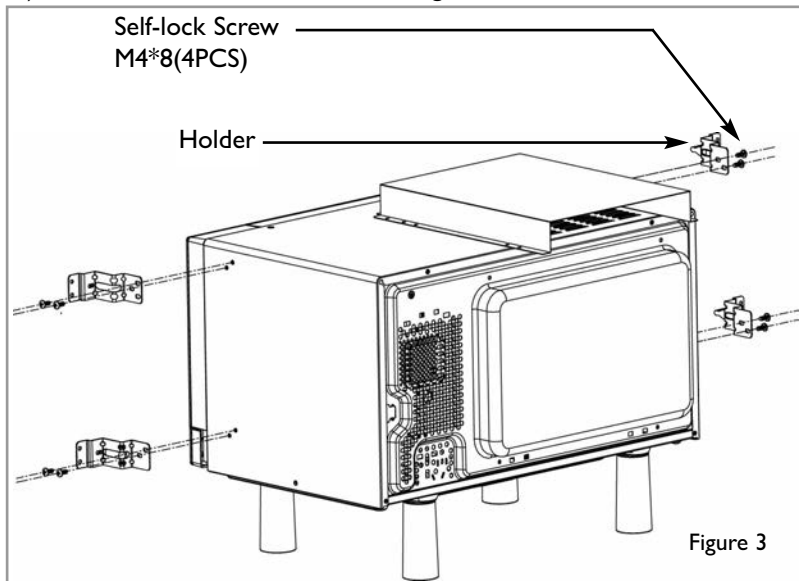

Figure 3
C) Installation of holder, as shown in Fig.3